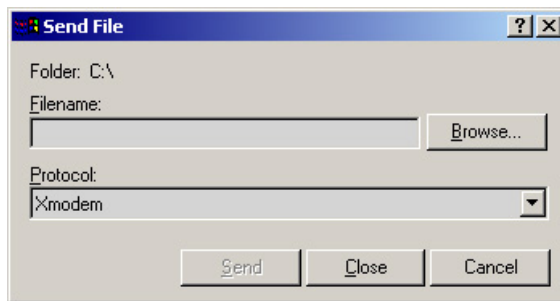

Figure 40: Send File Dialog Box
5.	When the Send File dialog box opens, select “Xmodem” from the protocol pull-down list. See Figure 40.